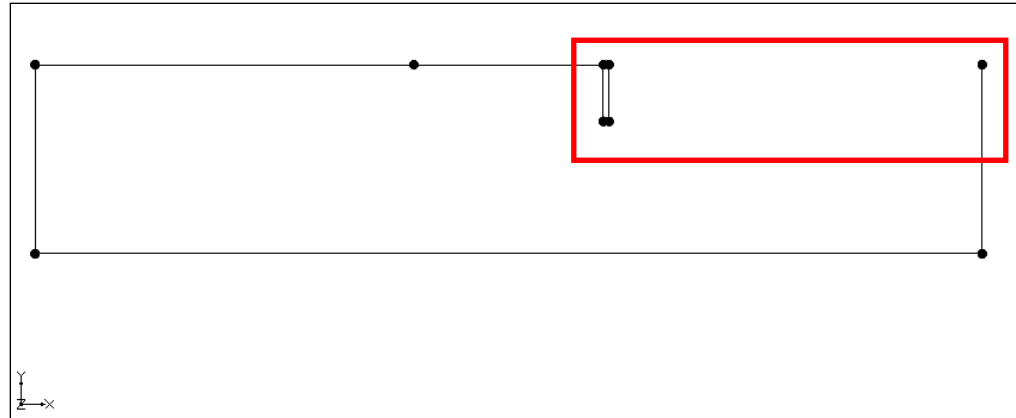

Figure 6 Zoom in to this area
6. Using the **Zoom**  tool, drag a box as shown by the red box in Figure 6.